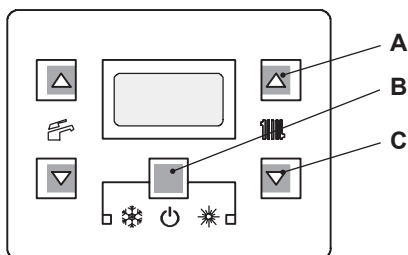
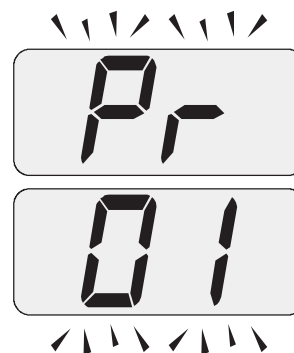

Figure 4.1
Figure 4.2
- 1 To enter in the parameters setting mode press sequentially the 3 keys "B - C - A" (Figure 4.1) and hold in for 10 second until the display shows Figure 4.2.
- 2 Scroll the various parameters using keys "A" or "C" (Figure 4.1) until the LCD display indicates the letters **Pr**, alternating with the code **28**, indicating entry in "parameter 28" (Figure 4.3).
- 3 Press keys "B" and "A" (Figure 4.1) at the same time until the LCD display indicates the value of parameter 28 (e.g. **12** default value) Figure 4.4.
- 5 By pressing key "B" (Figure 4.1) confirmation of the inserted value is obtained.
- 6 By pressing keys "B" and "C" (Figure 4.1) together, you will exit without changing the value (return to parameter list Figure 4.3).
- 7 Press keys "B - C - A" (Figure 4.1) together for 10 seconds to exit "programming mode".